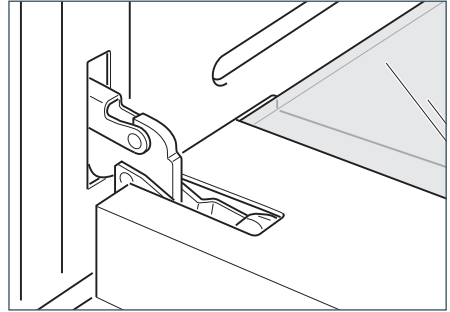

Fig.85a
- 1 Open the door to its full extent (Fig. 85a).